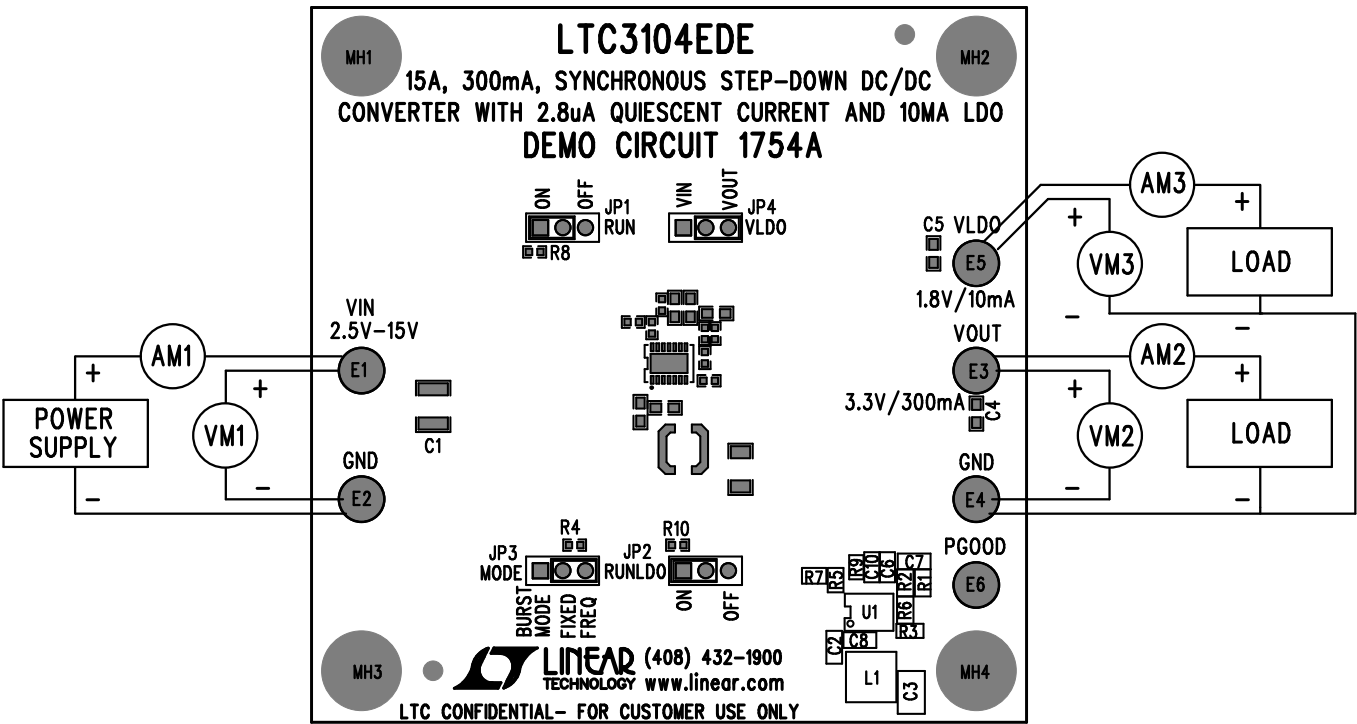

Figure 3. Proper Measurement Equipment Setup
Using short twisted-pair leads for any power connections and with all loads and power supplies off, refer to Figure 3 for the proper measurement and equipment setup. The battery/power supply (PS1) should not be connected to the circuit until it is stated in the following procedure.
2. With power off, connect the power supply (PS1) as shown in Figure 3. If accurate current measurements are desired (for efficiency calculation for example), then connect an ammeter in series with the supply as shown. The ammeter is not required, however.
3. Connect a load to V_{OUT} , as shown in Figure 3. The load can be up to 300mA or 11Ω for $V_{OUT} = 3.3V$. Connect an ammeter if accurate current measurement or monitoring is desired.
4. Connect a load to VLDO, as shown in Figure 3. The load can be up to 10mA or 180Ω for VLDO = 1.8V. Again, connect an ammeter if accurate current measurement or monitoring is desired.